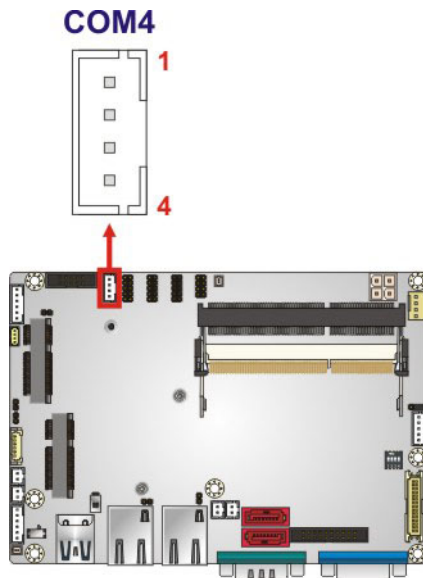

Figure 3-23: RS-422/485 Serial Port Connector Location
- CN Location:** See **Figure 3-23**